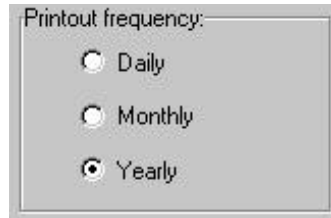

Figure 13.14
- j. Print out frequency. This section controls the frequency of print output. The available options are: **Daily**, **Monthly**, and **Yearly** (Figure 13.14).